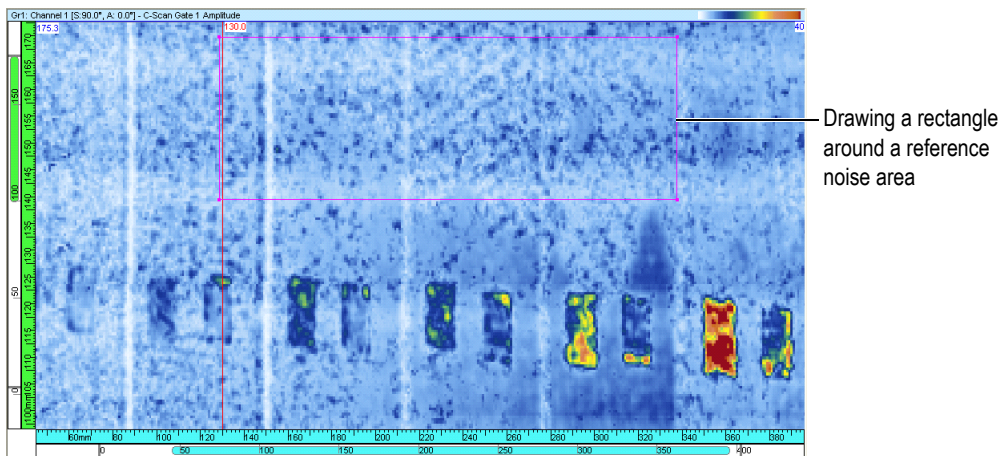

Figure 7-29 Selecting the noise reference area with the Zone tool
2. On the Component toolbar, select the Zone tool (), and then draw a rectangle over a zone representing a noise reference area (see the example shown in Figure 7-29 on page 368).